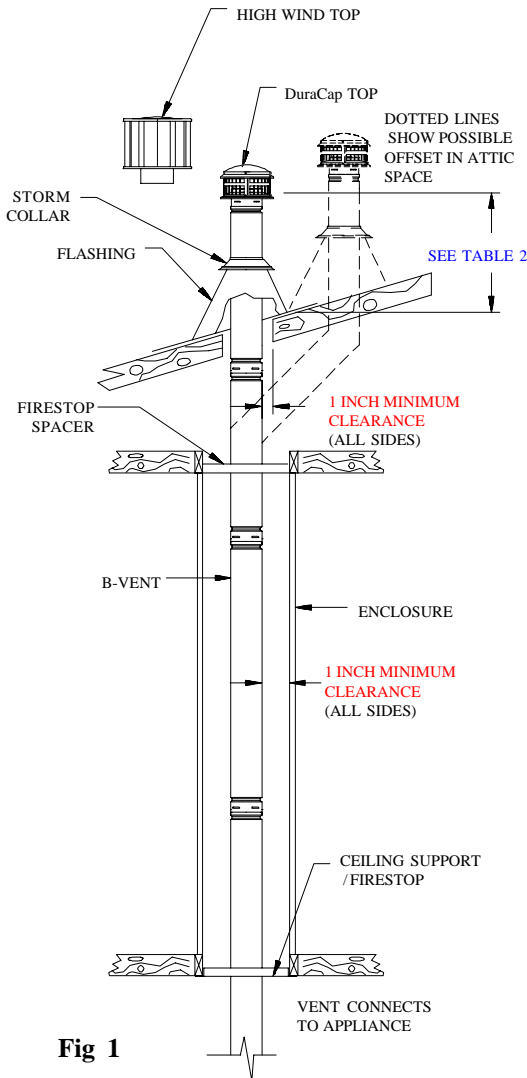
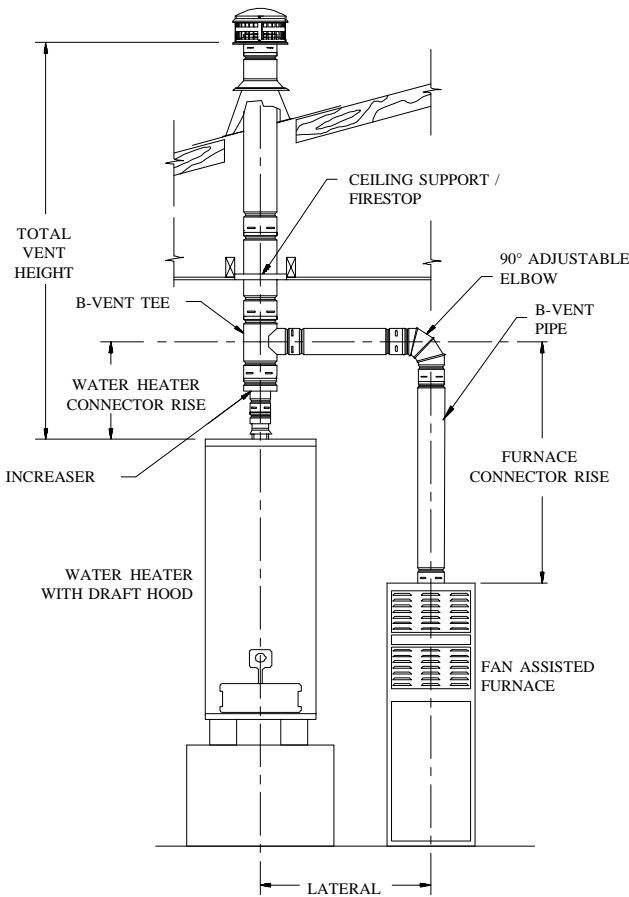
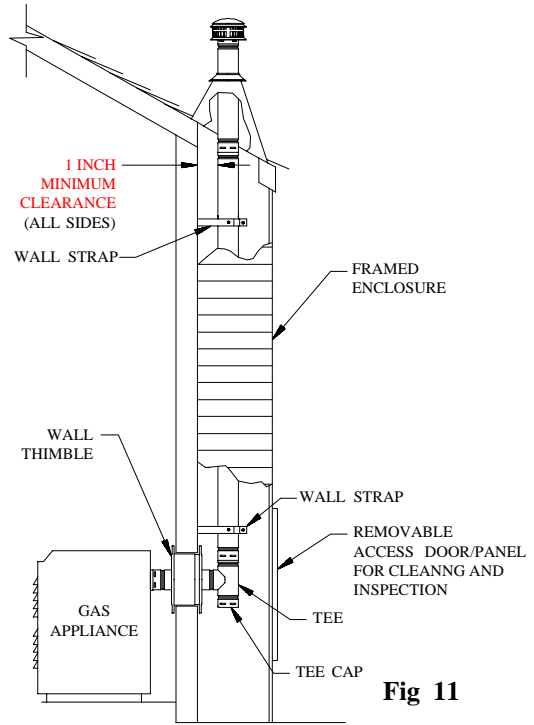

Fig 1
Fig 2
Fig 11
3. **Figures 1, 2, & 3** show examples of some typical residential installations.
8. **Tees and Wyes.** **Tees** and **Wyes** are used to combine connectors from 2 or more appliances into a common vent as shown in **Figures 2** and **3**. A **Tee** should be used in a through-the-wall application, (**Figure 11**), as they have a removable **Tee Cap** (available as a separate item) attached to the bottom.
burns. **Figure 1** (page 2) shows a system which passes through an occupied second floor. Simpson Dura-Vent does not recommend installation of B-Vent Pipe on the outside wall of a building, particularly in cold climates. If it is necessary to do this, enclose the outside portion of the system in a chase, as shown in **Figure 11**. It would be wise to consult the Local Authority prior to construction. Note that the enclosure requires an access door for inspection and maintenance purposes.